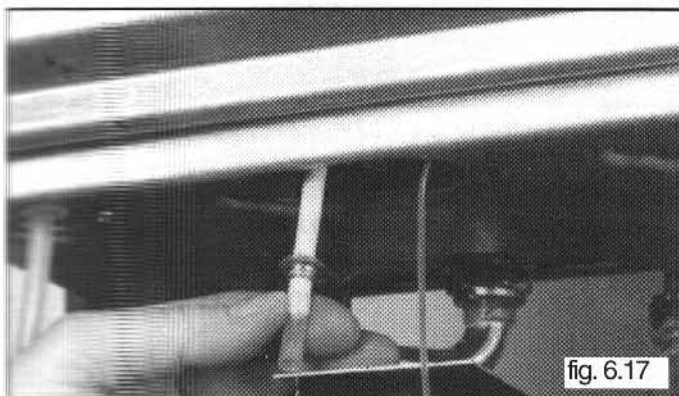

fig. 6.17
- 6 Slide the electrodes gently downwards (see fig. 6.17); To mount, repeat the steps in reverse order, paying particular attention to the following: